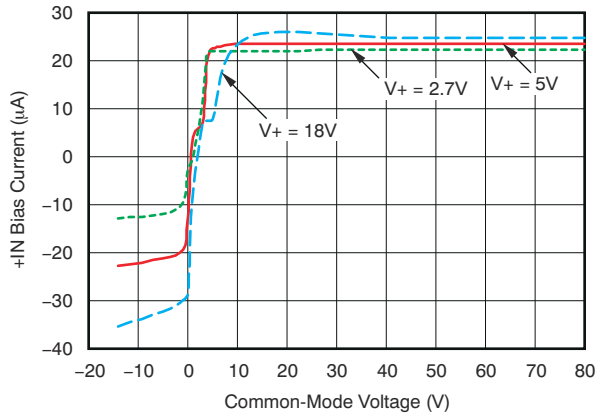

图 6-7. INA283-Q1 +IN BIAS Current vs Common-Mode Voltage
- (1) RTI = referred-to-input.
- (2) See typical characteristic graph 图 6-7 .
- (3) The average of the voltage on pins REF1 and REF2 must be between V_{GND} and the lesser of $(V_{GND}+9\text{ V})$ and V_+ .